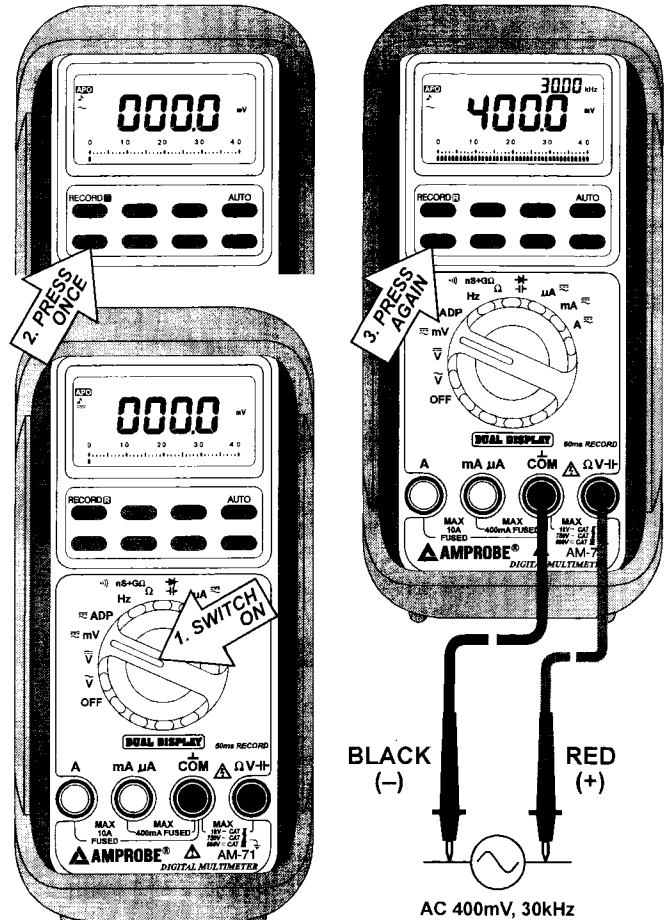

FIG 5. DC, AC, AC+Hz mV FUNCTIONS
- 4) Connect test leads to voltage source and observe the digital display, see **FIG 5**